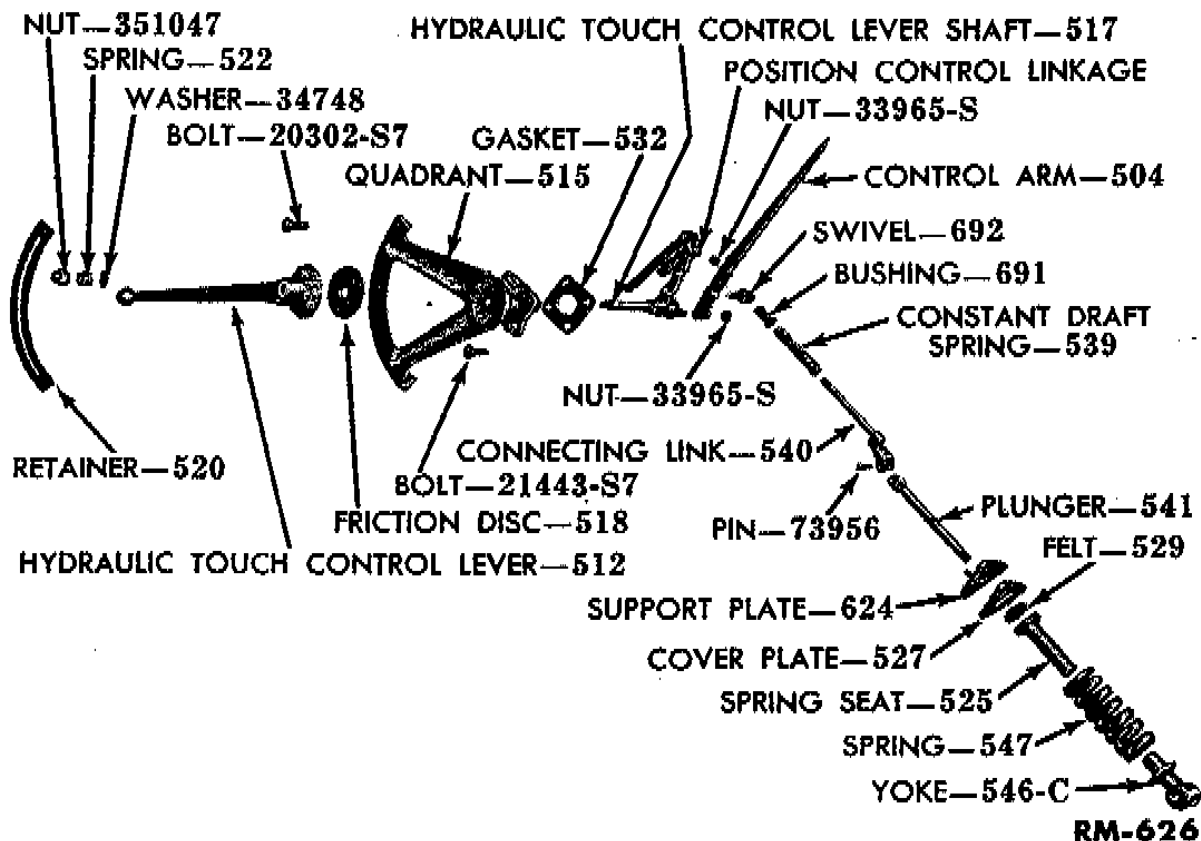

Fig. 18—Hydraulic Control Linkage
(2) **REMOVE CONTROL LINKAGE.** Remove the hydraulic touch control lever retainer (fig. 18) from the quadrant. Remove the nut, spring and flat washer that secure the hydraulic touch control lever shaft. Remove the hydraulic touch control lever, woodruff key, and the friction disk from the shaft.
Position the three-cornered plate with the pin at the top on the hydraulic unit cover and secure with three cap screws. Install a new felt washer in the control spring seat. In control spring, and yoke (fig. 18). Mount gasket, on the hydraulic unit cover. Ins